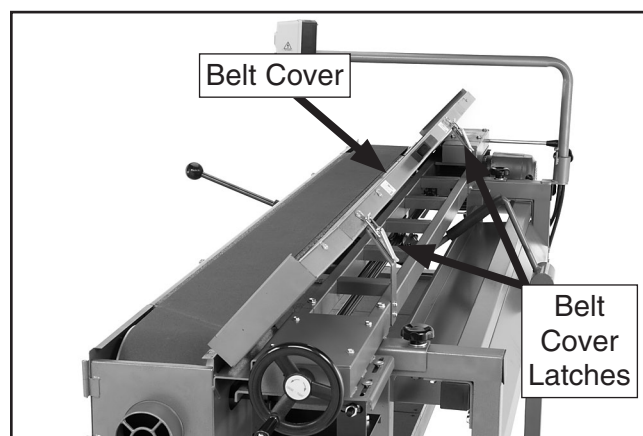

Figure 41. Belt cover latched open.
4. Release the belt cover latches to open the belt cover, then secure it in the open position using the two latches shown in **Figure 41**.